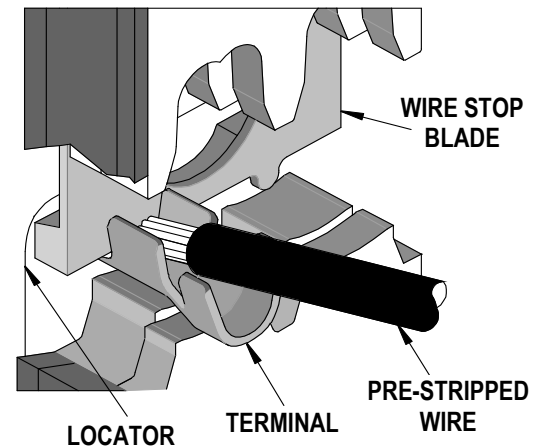
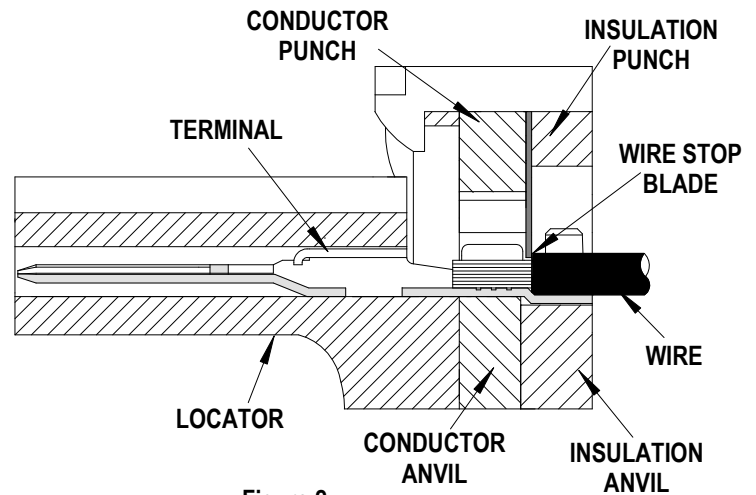

Figure 1
Figure 2
- Slide the pre-stripped wire into the wire stop blade. See Figure 1. Be sure to hold the wire in place until the terminal is fully crimped. See Figure 2.